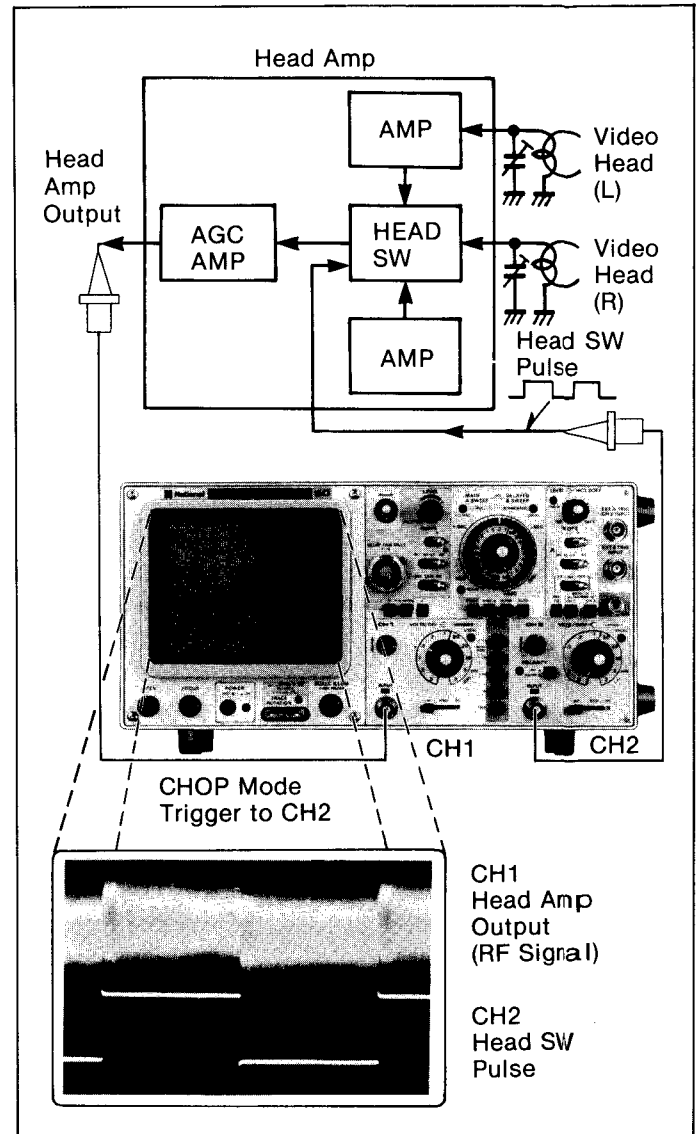

Fig. 22 Connection of Oscilloscope
1. Set the tracking control to the detent (fixed) portion. Connect the oscilloscope to the output of the Head Amp. Refer to Fig. 22 "Connection of oscilloscope".